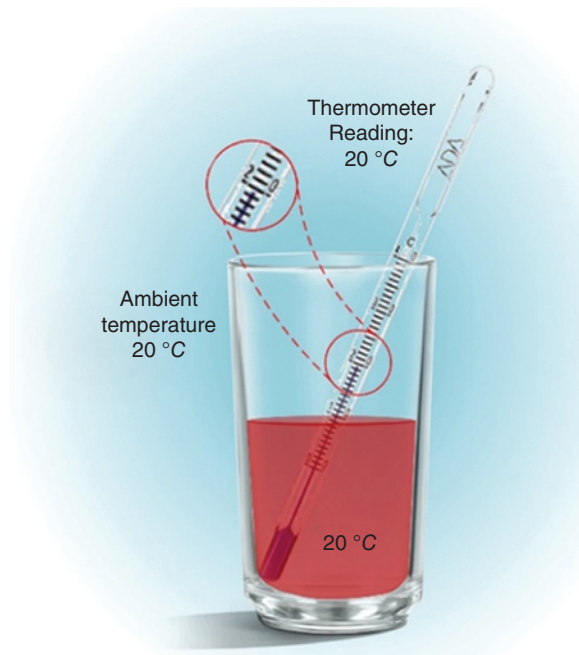
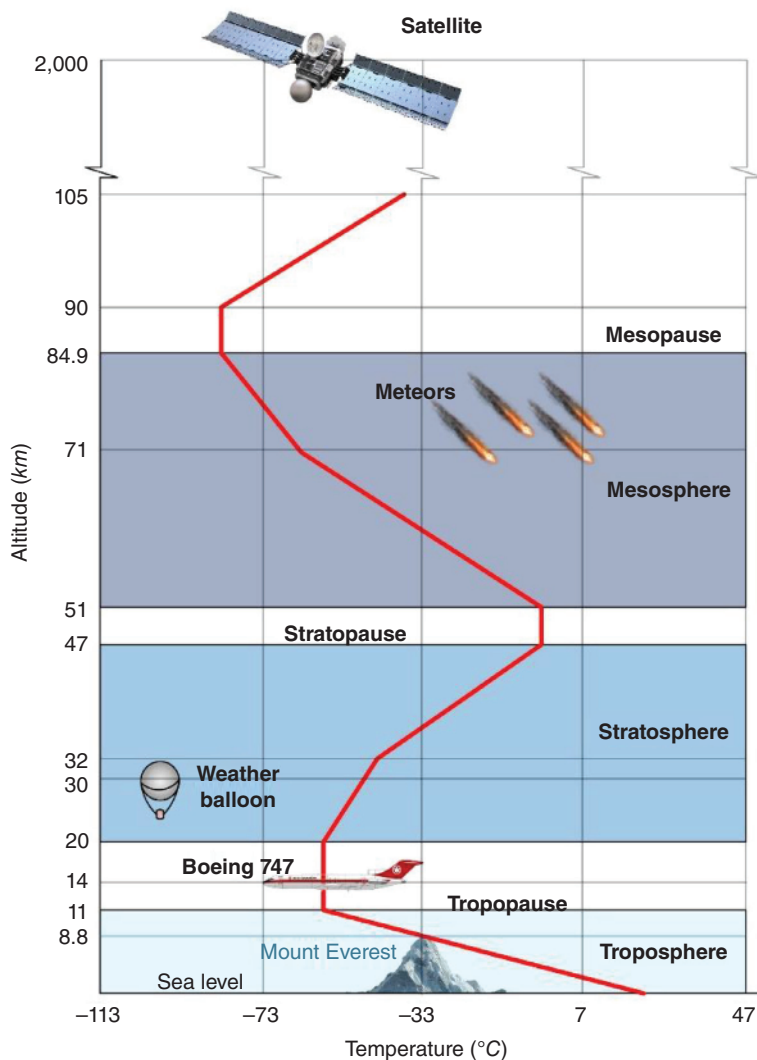

Figure 1.18 Illustration of how thermal equilibrium exists between a glass of liquid and its surroundings at the same temperature.
Figure 1.19 The variation of atmospheric temperature with elevation from the Earth's surface.
The key question here is that how accurately one can measure temperatures. This will definitely depend on various criteria, namely the materials being use to quantify it and their sensitivities to the temperature variations as well as their sizes, shapes, and phases. It is also important to consider repeatability and predictability in measuring the temperatures which will lead to accuracy. This will then bring us to the zeroth law of thermodynamics, which plays a critical role in temperature measurement devices. For example, a basic thermometer is recognized as a temperature measuring device, as illustrated in Figure 1.18. Note that the thermometer measures the temperature through the zeroth law of thermodynamics, as when it reaches thermal equilibrium with the object that it is in contact it will have the same temperature. One of the interesting facts of temperature is shown in Figure 1.19, where it shows the variation of the atmospheric temperature for the condition when the starting temperature from the earth surface is 25 °C.
Note that the temperature reduces through the troposphere which extends from the Earth's surface to nearly 11 km . Following the troposphere, the temperature is well below zero, nearly around -56 °C . The temperature remains constant as the elevation increases from 11 to 20 km above Earth's surface (Figure 1.19). Moving further away from the Earth's surface also causes variations in the temperature, where it increases in some sphere bands while it decreases in others. Note the maximum temperature the atmosphere has in the Earth's surface to an elevation of 105 km is illustrated in Figure 1.19.
may refer to Figure 1.18 for a graphical illustration of the four common temperature scales, we essentially consider both Celsius and Kelvin as the most common scales to use in the international unit system (SI) throughout this book.